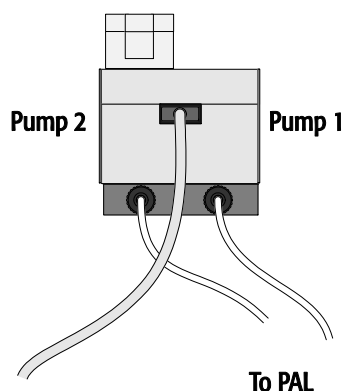

Figure 10. Electrical Connections at the Pump Holder Bracket.
7. Insert the cable provided into the middle socket, between the other two sockets on the PCB. For details see Figure 10;